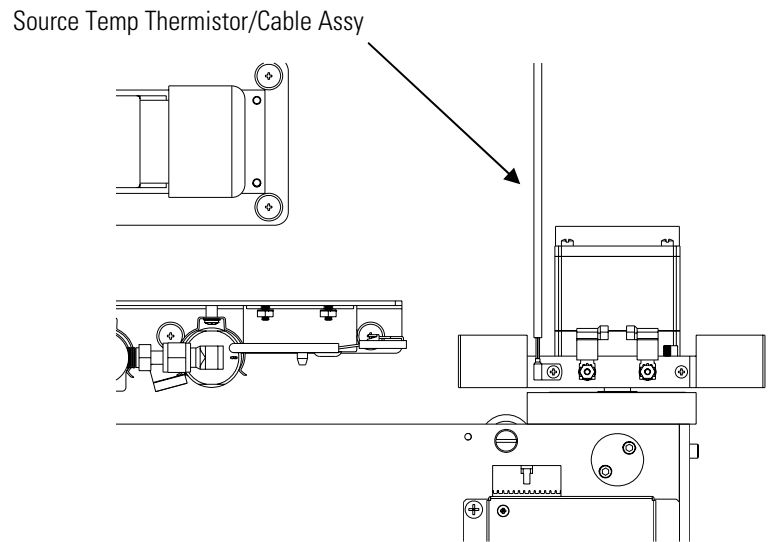

Figure 7–19. Replacing the Source Housing Thermistor Cable Assembly
Equipment Damage Some internal components can be damaged by small amounts of static electricity. A properly grounded antistatic wrist strap must be worn while handling any internal component (Figure 7–1). If an antistatic wrist strap is not available, be sure to touch the instrument chassis before touching any internal components. When the instrument is unplugged, the chassis is not at earth ground. ▲
2. Tape the thermometer to the thermistor, which is plugged into the measurement interface board (Figure 7–19).